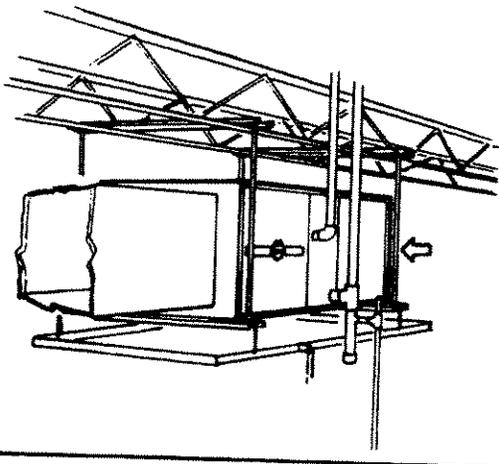

FIGURE 12
- 4 - Hang drain pan below support frame as shown in figure 12.
- 5 - Mount unit on support frame and slide six Isomode pads into place between cabinet and frame as shown in figure 12. Unit must be level to ensure proper coil drainage. Replace blower if removed during hoisting.